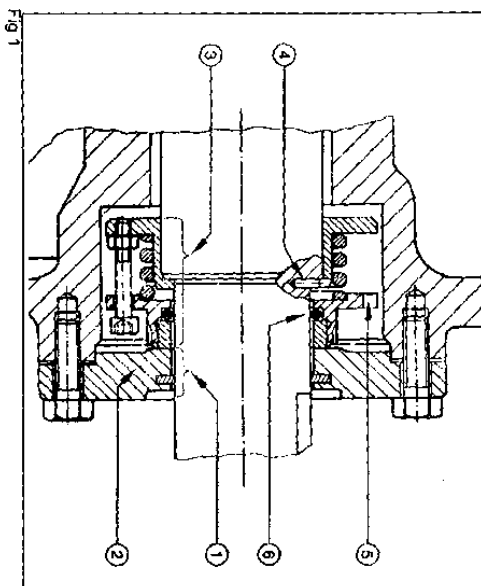

Fig. 1
This series of open reciprocating compressors is fitted with a high quality shaft seal. This consists of a rotating and a stationary unit (see fig. 1). This maintenance instruction describes the exchange of the shaft seal in case of damage.
1. Ensure that the tube and fitting are size compatible. That the tube end is cut square and deburred (Fig. 1).